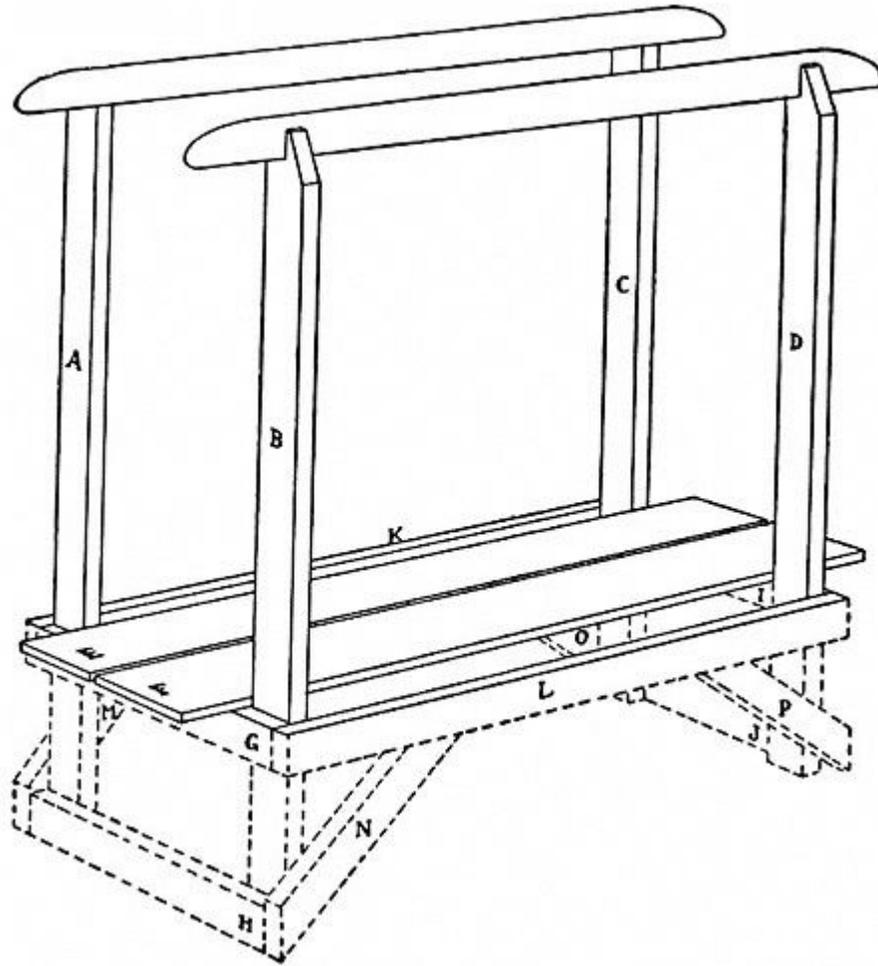

FIG. 252.—The Parallel Bars.
**Parallel Bars** is shown in Fig. 252. To acquire the necessary firmness without putting in bracing that would interfere with the performer, the base of the apparatus should be set underground, as indicated by the dotted lines in the illustration.
When this has been done, cut four two-by-fours twenty-eight inches long. Then lay the uprights *A* and *B* on the ground twenty inches apart, and spike two of the two-by-fours to them at *G* and *H* (see Fig. 254). Uprights *C* and *D* should be similarly fastened together with the other two-by-fours at *I* and *J* (see Fig. 252). When these frames have been made, set them upon their bases six feet apart, and spike the two-by-fours *K* and *L* to the uprights in the places shown in Fig. 252, with braces set between them and the pieces *H* and *J*, at *M*, *N*, *O*, *P* (see Figs. 252 and 255).